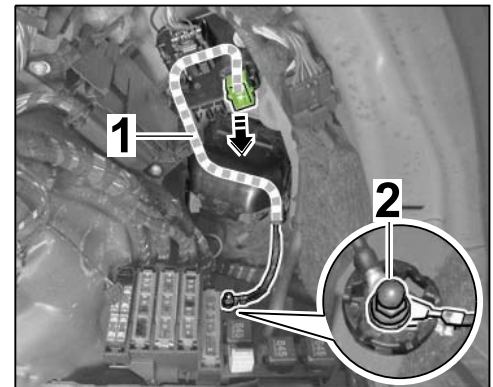

Figure 4
- 2.1.4 Install green pin connector socket (ground line) into the holder from the rear (⇒ *Figure 4 -Arrow-*).
- 2.1.5 Route ground line to ground pin 42 (rear, right) (⇒ *Figure 4*).
Wire harness for trailer hitch preparation is secured to the main wire harness in the luggage compartment at the right ⇒ *Figure 4 -3-*.